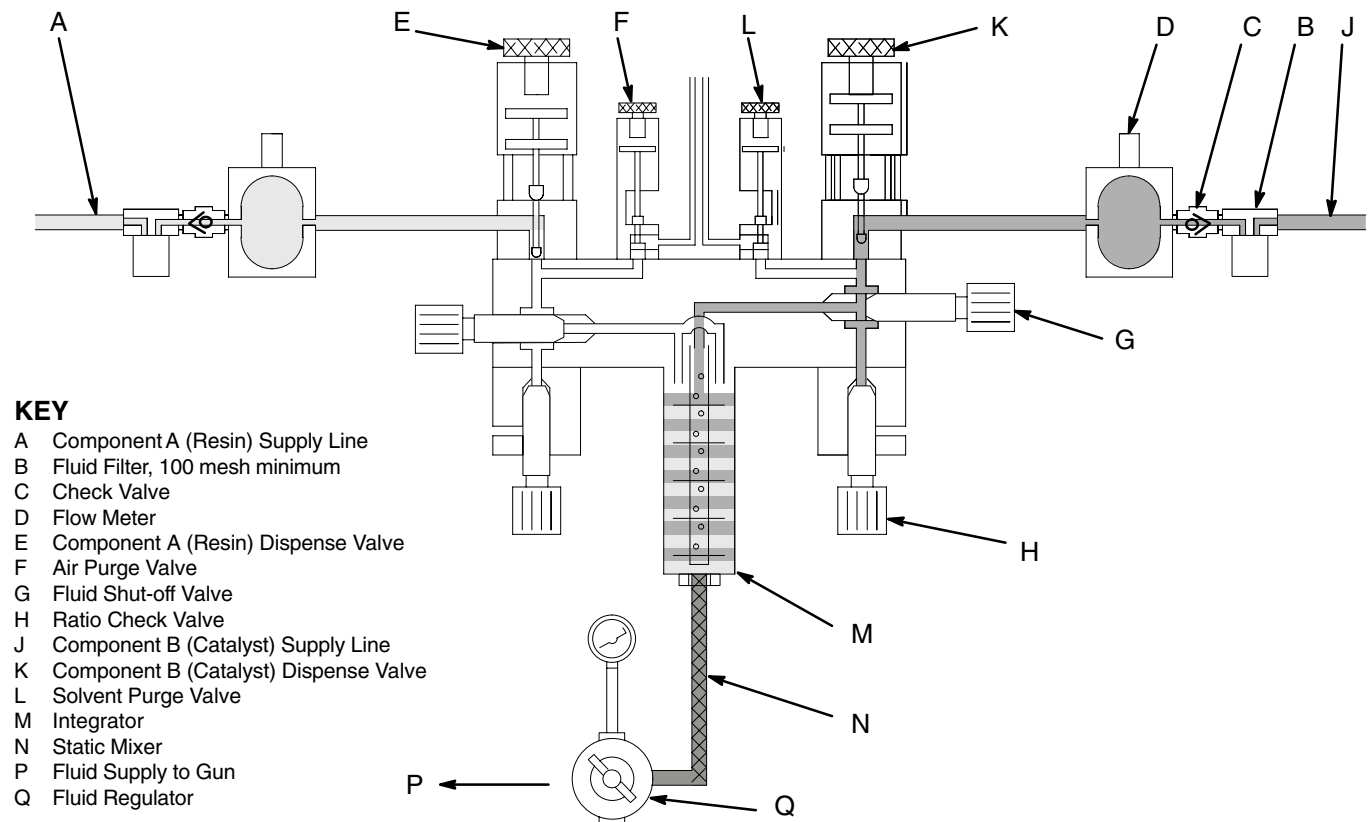

Fig. 2.2
- Next, the Component B (catalyst) dispense valve opens. The fluid begins to flow into the integrator chamber and is lined up proportionately with the previously-dispensed Component A dose. The B dispense valve closes when the target volume for Component B has been reached. See Fig. 2.2.